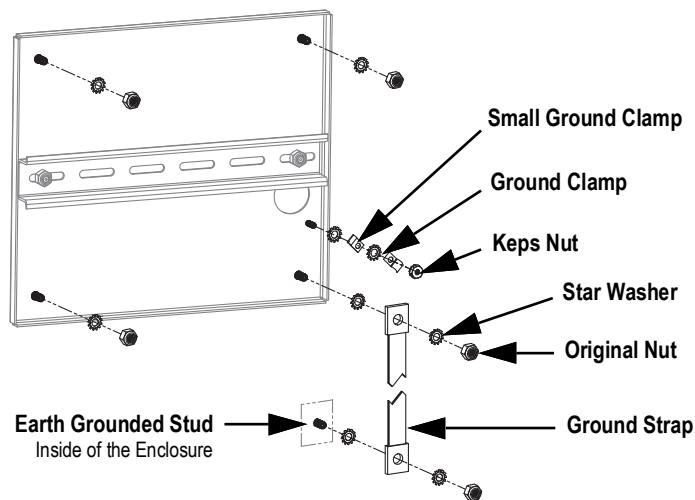

Figure 2-29. Backplate Shield Grounding
3. Secure the other end of the ground strap to an earth grounded stud inside of the enclosure with star washers on either side of the ground strap, see Figure 2-29. Make sure there is an appropriate amount of slack in the grounding strap for opening and closing the enclosure door.
**NOTE:** Ensure the small ground clamp is installed first then install the ground clamp, see Figure 2-29 on page 37.